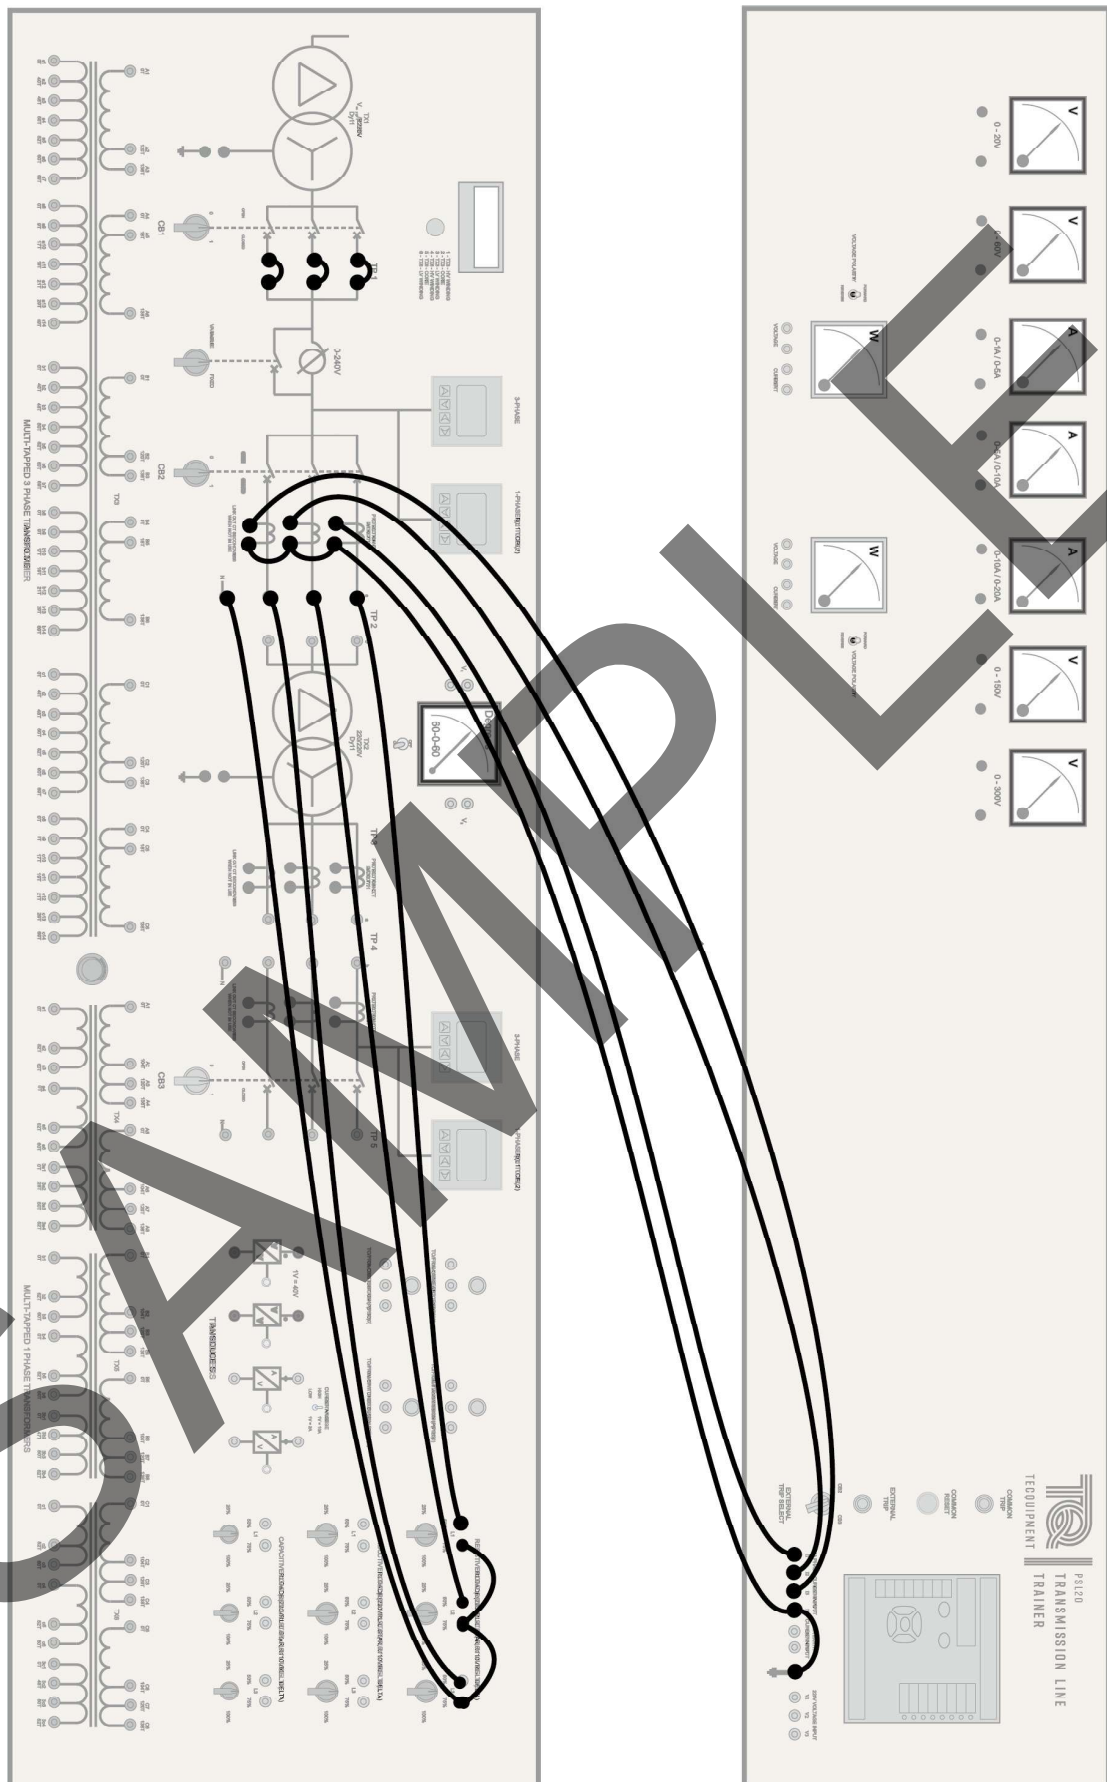

Figure 40 Supply Connections with Protection
- 1) Connect the three-phase circuit to the relay and resistive loads as shown in Figure 40. Note that you have connected the loads in star.